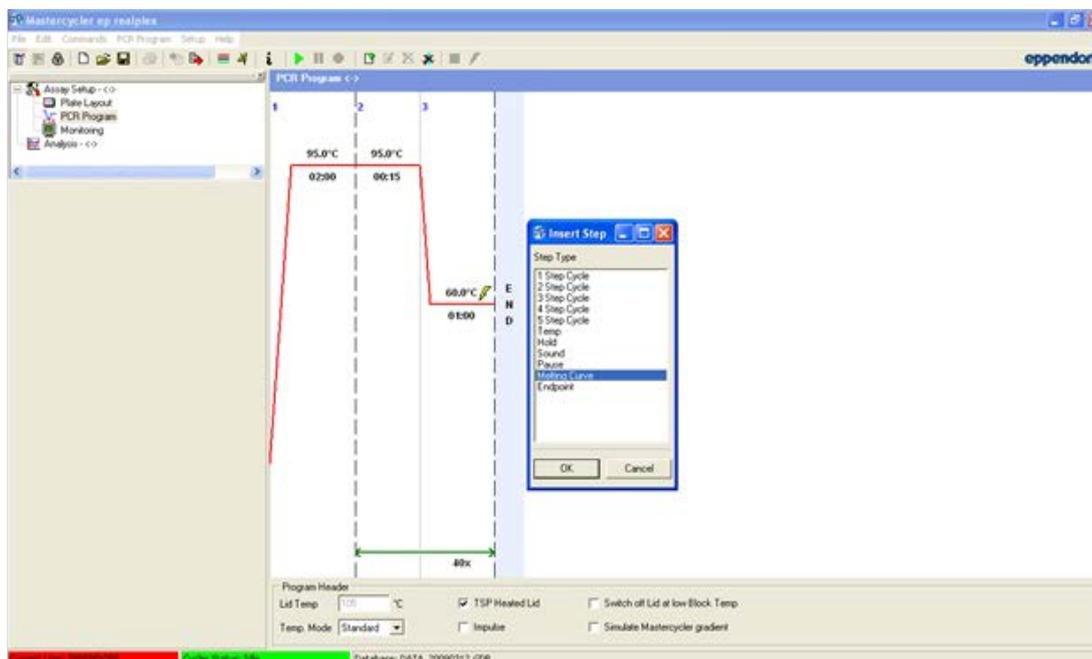

Figure 6. Adding the melting curve.
- Right-click on "END." Select "Add Step", then select "Melting Curve" and click "OK" (Figure 6).